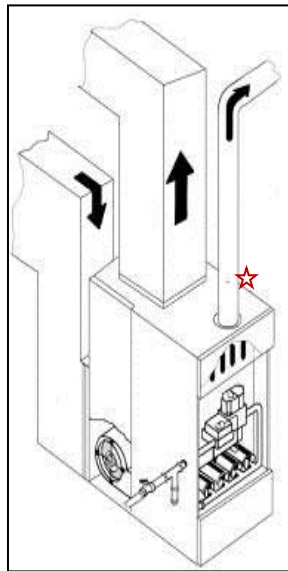

Figure 11: Combustion appliance: Drill a small vent hole where indicated by the red star
1. Drill a small hole in the vent pipe at the location identified in Figure 11.